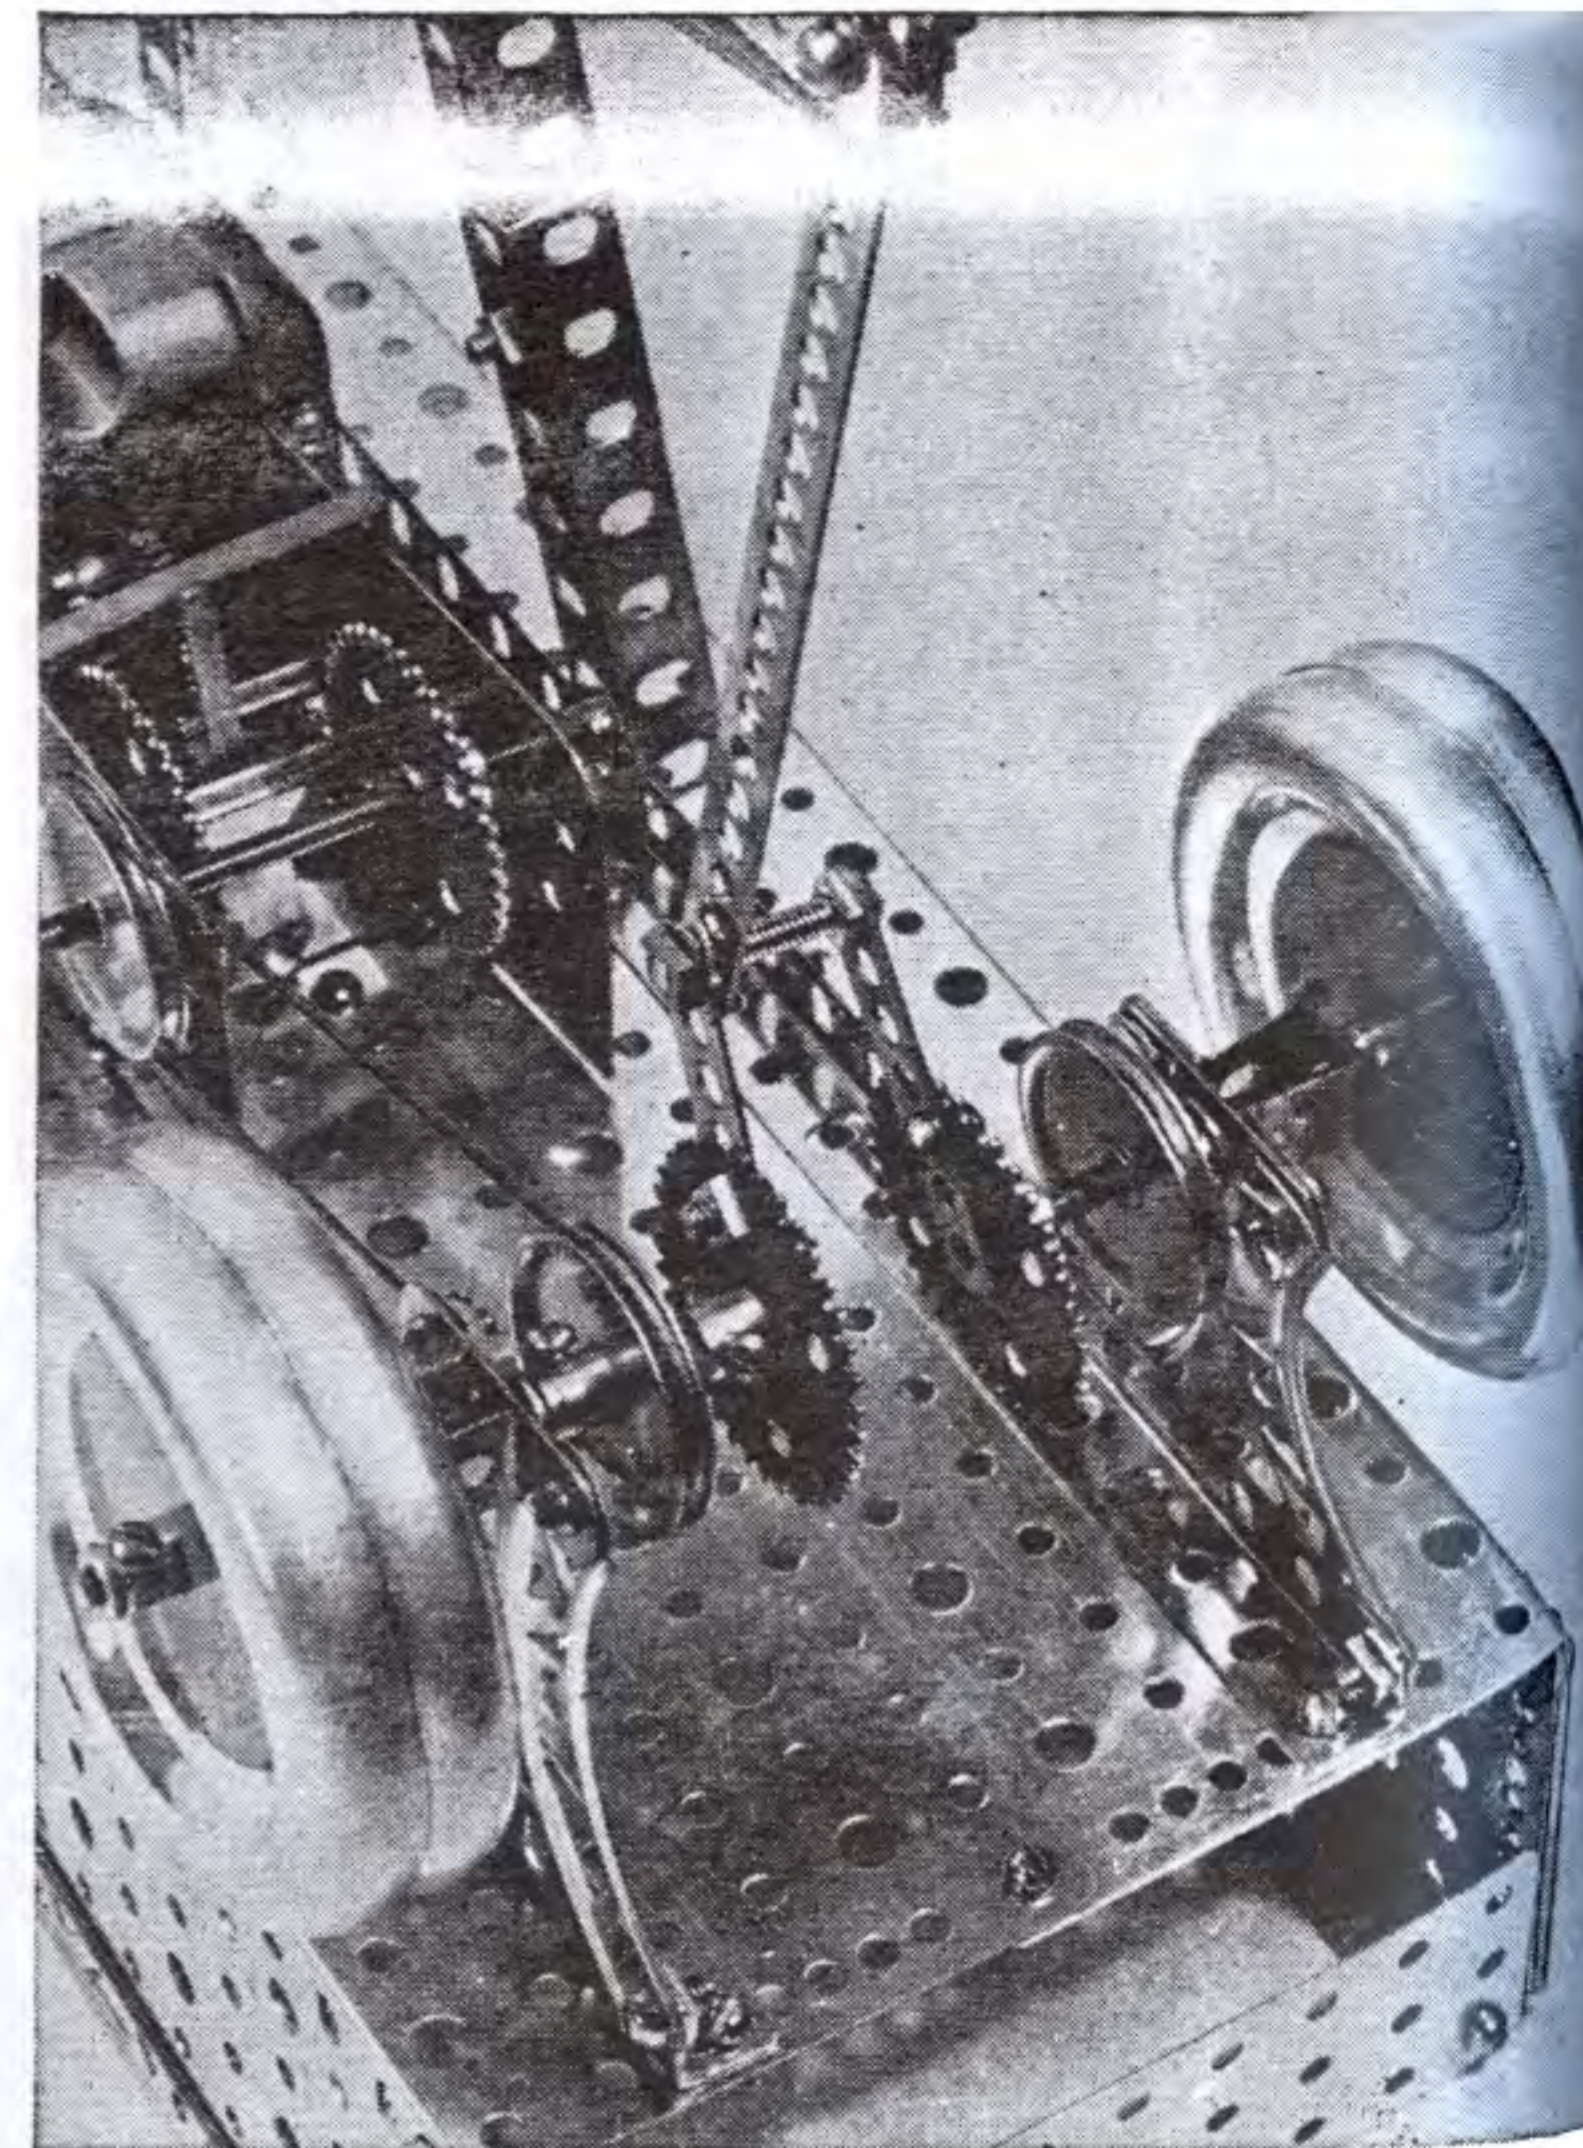

FIGURE 2
It is best to build this model as well as all other models from the bottom up. The base for this model is shown in Figure 1. The sides are each (MN) 12" base plates, the top is made from 2 (MN) 12" base plates. In Figure 2, you will see an (MF) 1" x 5" base plate fastened on the end to the sides of the base with (CH) right angles. On each side of the base is fastened an (A) 2 1/2" girder and 2 (C) 10" girders.
In Figure 2 you will see a detail of the flywheel assembly. To the (DP) 12" angle girders are fastened 4 (D) 2 1/2" curved girders. Across the top of these curved girders is fastened an (F) 5 hole strip and (P20) 5 hole strip formed. On each side there are (AS) 27/8" axles which are fastened the 2 (MH) 3" disc wheels, P7 pulley and the (CJ) 36 tooth gear. On each 36 tooth gear is fastened a (G) 7 hole strip which is used as the eccentric arm to make the beam move in a see-saw fashion.